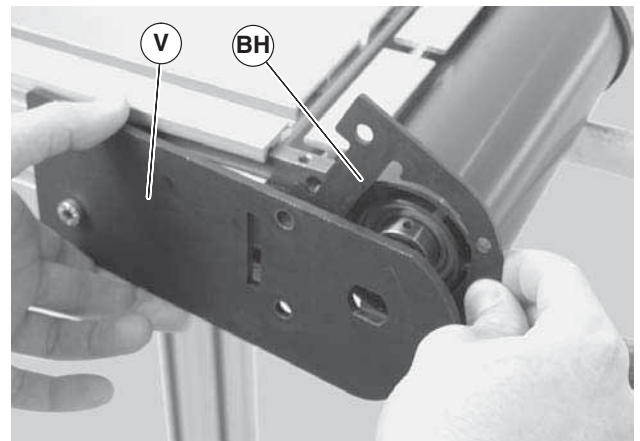

Figure 45
3. Pull back the outer headplate (Figure 45, item V) and remove the inner spacer (BH).